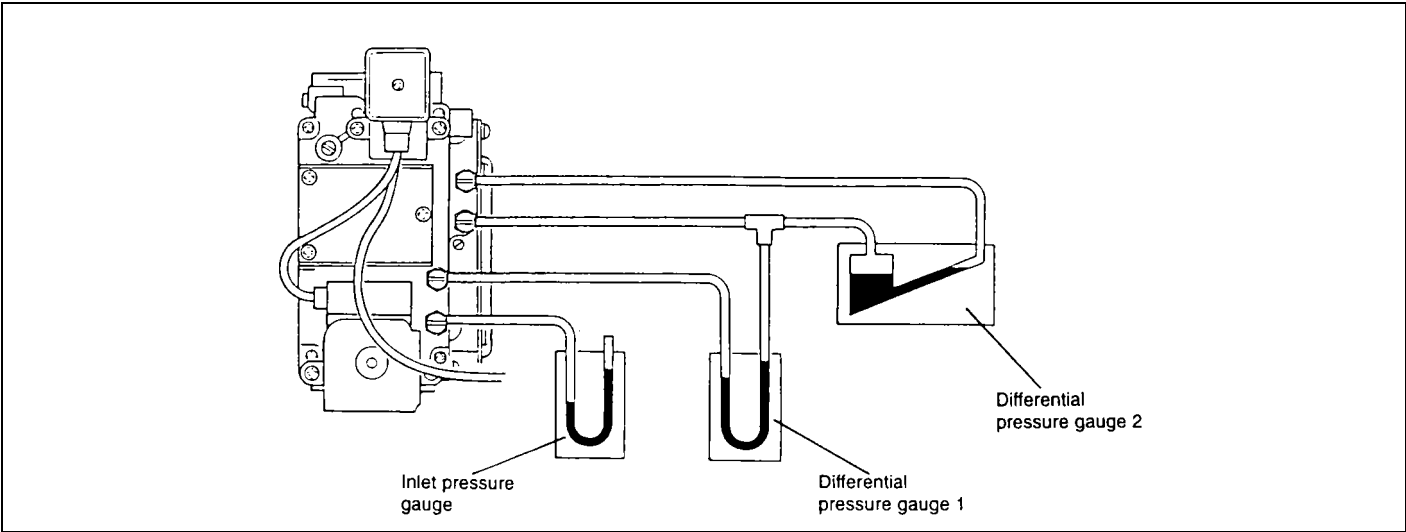

FIG. 24 GAS CONTROL VALVE ADJUSTMENT
1. Turn off the gas service cock. Fit a pressure gauge to the gas inlet pressure tapping on the gas control valve. Connect a differential pressure gauge or "U" tube manometer between the burner pressure tapping (high pressure side) and the reference pressure tapping (low pressure side) on the gas valve (See FIG. 24).
3. Sufficient flexible tube and "T" piece connector to enable these instruments to be connected to the gas valve in the arrangement shown in FIG. 24.
1. Remove sealing screws and connect the two differential pressure gauges to the gas valve as shown in Fig. 24 and remove the adjustment screw sealing cap.